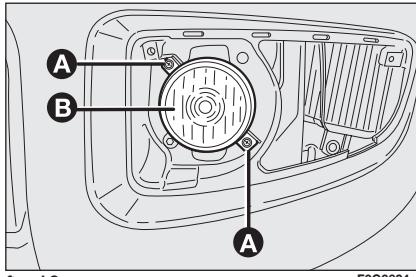

fig. 19
- loosen the fastening screws **A**-**fig. 19** and remove the lens **B**;